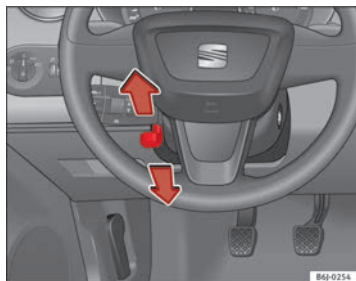

Fig. 96 Steering column height adjustment
- Push the lever under the steering column ⇒ Fig. 96 down ⇒ ⚠.
- Adjust the steering wheel until the correct position is set ⇒ Fig. 96.
- Adjust the driver seat or steering wheel so that there is a distance of at least 25 cm between the steering wheel and your chest ⇒ Fig. 96. If you fail to observe the minimum distance, the airbag will not protect you. Risk of fatal injury.